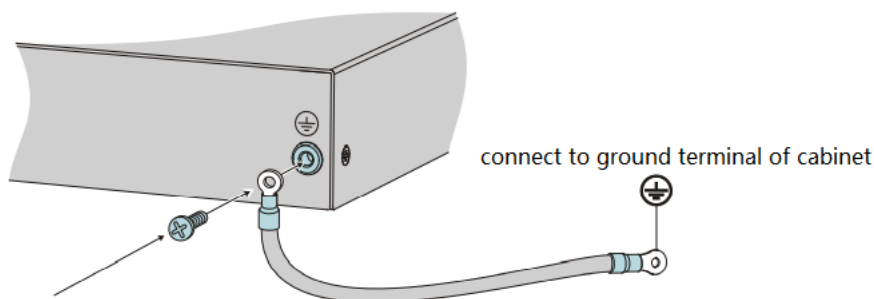

Figure 11: Grounding the device
- ☐ Install the grounding screw at the rear of the device to the protective conductor, see Figure 11.